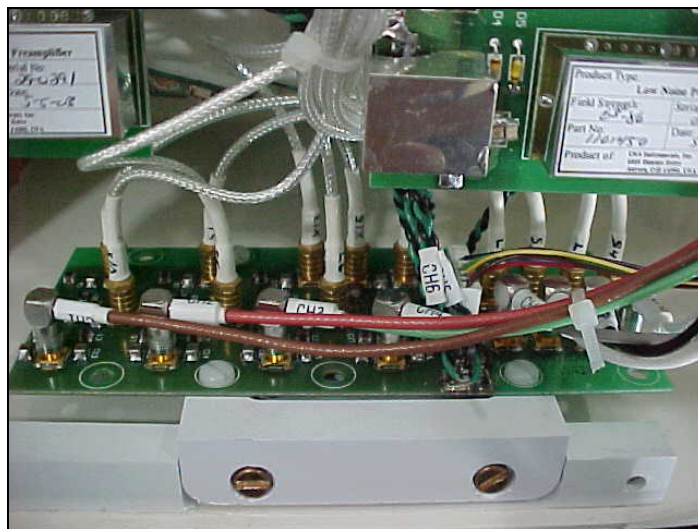

Figure 10: Fixing the cable assembly on the interface board.
Step 5 – Fix a new cable assembly on the CTL coil and reattach the cable lock with two screws. Connect all eight SMB plugs and the DC Plug to the corresponding receptacles on the interface board (see *Figure 10*).